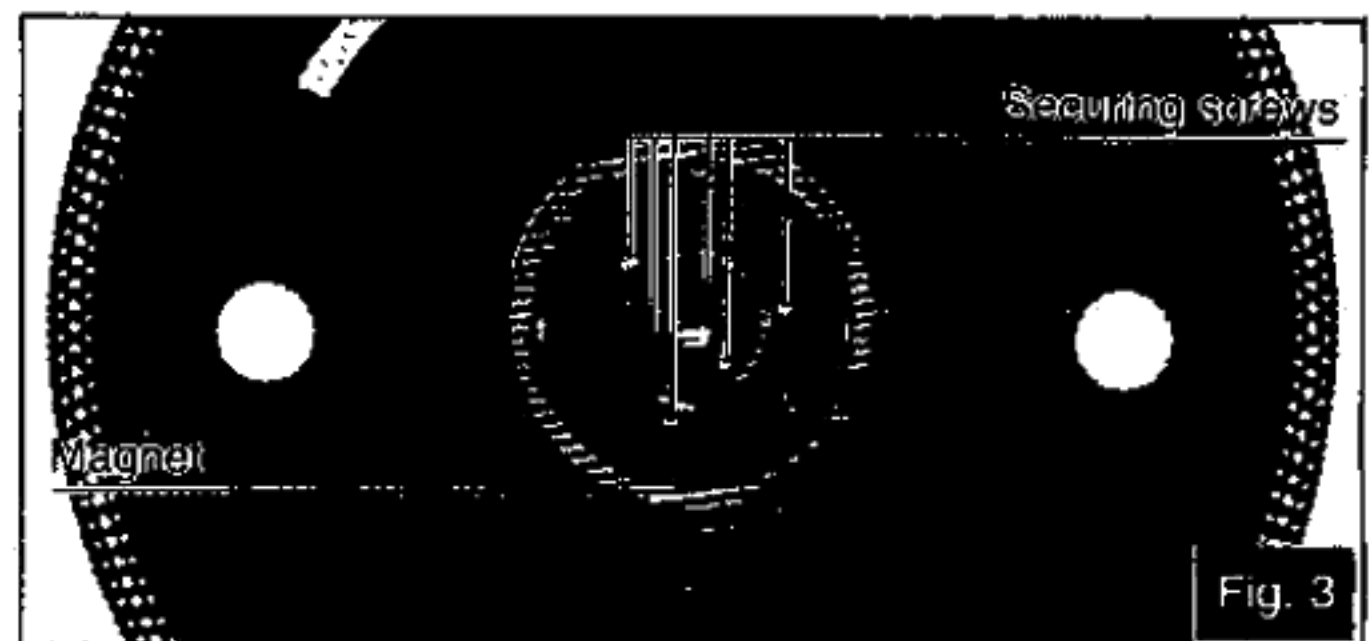

Fig. 3
- 2) Do not remove or loosen the screws. (See Fig. 3.)